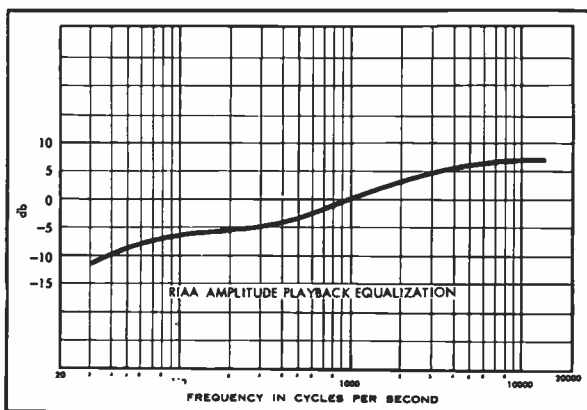

Fig. 1. RIAA amplitude playback equalization.
Voltage output of a piezoelectric cartridge (usually ceramic, though sometimes crystal) is proportional to recorded amplitude, rather than to velocity as in the case of a magnetic pickup. Hence the equalization requirements differ radically from those for a magnetic cartridge. Whereas the magnetic requires bass boost and treble cut, the piezoelectric needs *bass cut* and *treble boost* in order to match the RIAA recording curve. See Fig. 1.
The free-air resonance of a cone driver is determined by the mass of the entire moving assembly and its mechanical suspension compliance. The equivalent circuit of a cone unit, operating in free air, is shown at (A) in Fig. 1. M_c represents the moving mechanical mass, M_a represents the air mass load, and C_s is the combined compliance of the suspension (spider and rim rolls). R_r represents the radiation resistance component of the air load as seen in the mechanical circuit, and R_m represents any mechanical resistances in the moving assembly. This circuit shows an impedance at resonance of just the radiation resistance plus the mechanical re-
When the driver unit is baffled in a small sealed volume the mechanical system has the equivalent circuit shown at (B) in Fig. 1. Because the rear of the driver piston is now enclosed, front to back cancellation is eliminated, and the radiation resistance, R_r , is increased and appears wholly on the front of the cone. The radiation to the rear into a small cavity at frequencies in the bass range is essentially non-existent. R_m , the mechanical resistance of the moving assembly, remains the same. M_a , the air mass load, is increased by virtue of the presence of the baffle. But the most significant change as far as this discussion is concerned is the addition of another series compliance component, C_a . This addition is due to the sealed cavity behind the cone. Recall that the primary resonance was higher for the driver in the sealed cabinet than for free air operation. This is caused by the addition in series of the air cavity compliance, C_a , which affected a reduction in the total compliance seen by the driver.
Fig. 1. Equivalent circuits: (A) Conventional cone driver in free air, and (B), "infinitely" baffled in small sealed cabinet; (C) Weighted cone driver "infinitely" baffled in small sealed cabinet.
Returning to the experimental system it will be seen that for a constant applied voltage on the driver voice coil the system will exhibit a flat energy output from resonance (88 cps) to approximately 1000 cps. Although the mechanical velocity of the piston is falling with increasing frequency above resonance at approximately 6 db per octave, the radiation resistance component, R_r , of the air load is rising 6 db per octave (taken as a power ratio). The radiation resistance is a function of frequency up to about 900 or 1000 cps for a nominal 12-inch cone, quadrupling each time the frequency is doubled. At this frequency it reaches an ultimate value and is constant for all higher frequencies provided the cone still operates as a rigid piston. But all 12-inch cones break up at approximately 1000 cps. Therefore, the considerations at present must be limited to frequencies below 1000 cps for the single degree of freedom circuits of Fig. 1 to be valid.